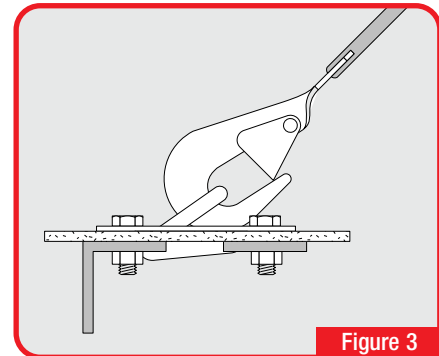

Figure 3
- 2 Rear of D-Ring bolt holes should be attached through frame of trailer at a minimum. Front mounting points should be reinforced if at all possible. NEVER mount D-Rings only to the wood, aluminum floor or to the frame of the trailer. Figure 3.